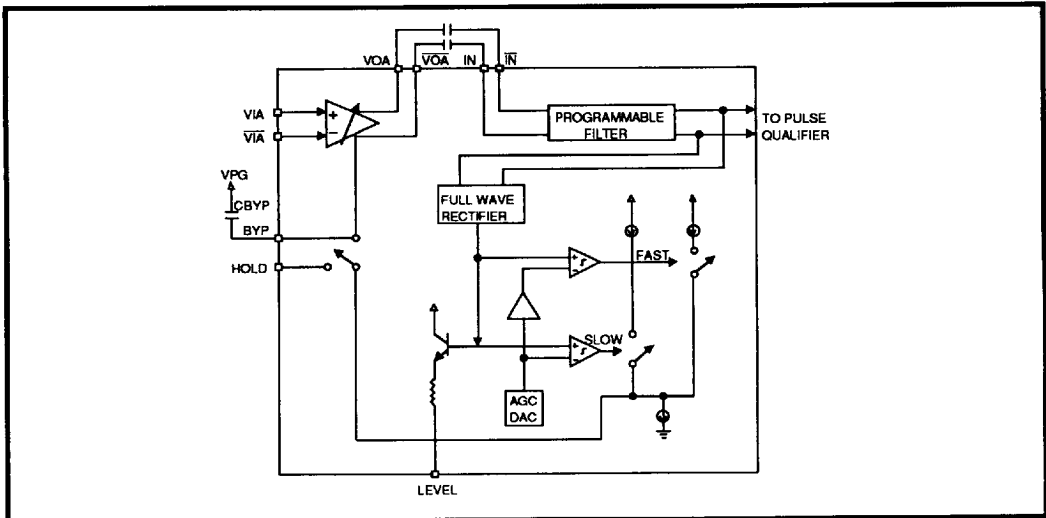

FIGURE 1: AGC Block
The gain of the AGC amplifier is controlled by the voltage (V_{BYP}) stored on the BYP hold capacitor (C_{BYP}), Figure 1. A dual rate charge pump drives C_{BYP} with currents that depend on the instantaneous differential voltage at the DP/DN pins. Attack currents lower V_{BYP} which reduces the amplifier gain, while decay currents increase V_{BYP} which increases the amplifier gain. When the signal at DP/DN is greater than 100% of the programmed AGC level, the nominal attack current of 0.17 mA is used to reduce the amplifier gain. If the signal is greater than 125% of the programmed AGC level, a fast attack current of eight (8) times nominal is used to reduce the gain. This dual rate approach allows AGC gain to be quickly decreased when it is too high yet minimizes distortion when the proper AGC level has been acquired.